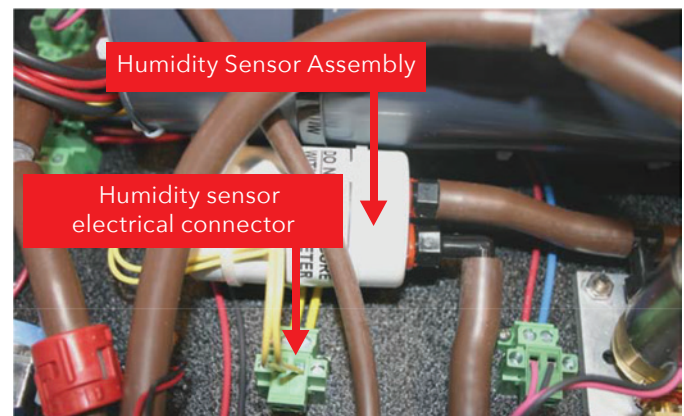

Figure 3. THE ADH NETCOM AC NEMA AUTOMATIC AIR DEHYDRATOR HUMIDITY SENSOR ASSEMBLY AND ELECTRICAL CONNECTOR.
6. Disconnect the humidity sensor terminal block from the electrical connector by loosening the captive screw at either end of the connector then disconnecting the terminal block. Refer to Figure 3.